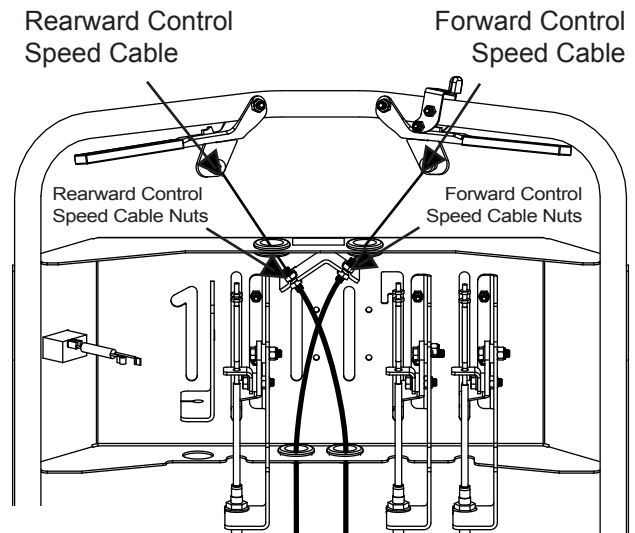

Fig. 6
6. Push freewheel rod in and disengage parking brake. Ensure that the ground speed control levers are in the neutral position. The machine should stand still while the engine is running. If the machine starts to creep forward or to the rear in this situation, then the forward or rear speed control cable must be adjusted. Locate the cable nuts underneath the control panel shown in Figure 6.